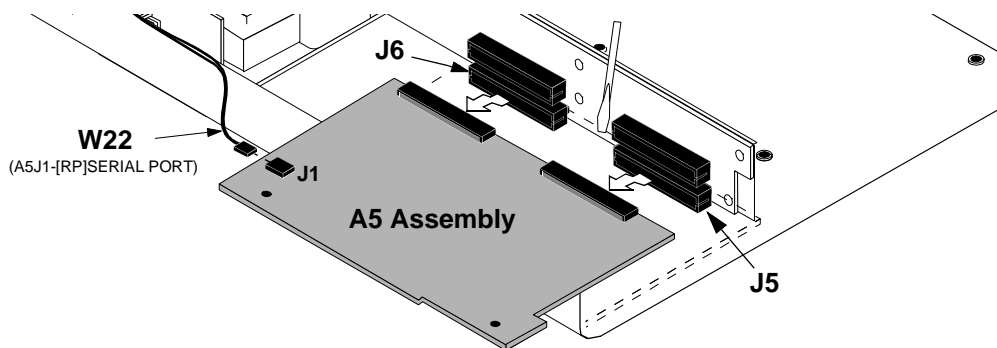

Figure 31 Removing the A5 Assembly
6. Before removing the A5 Protocol Processor assembly, disconnect the W22 cable from the assembly, see figure 31.
7. Using a flat-blade screwdriver, carefully tilt the end of the A5 assembly over the edge of the deck and unplug it from the J5 and J6 connectors of the A3 assembly, see figure 31.